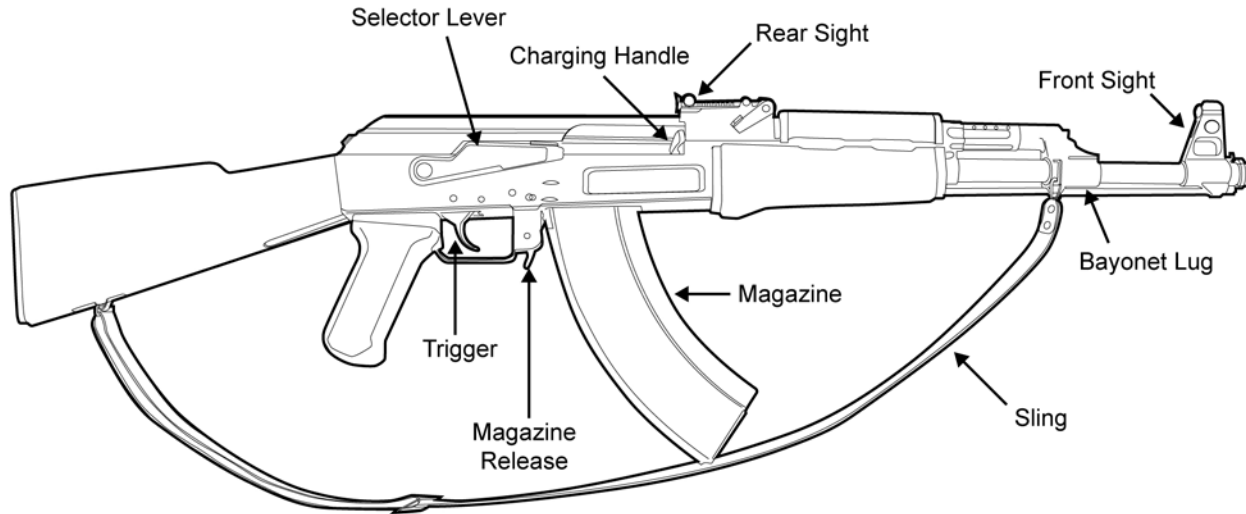

Figure 1. Right Side View of the Weapon.
1. **Right Side View**. Refer to Figure 1.